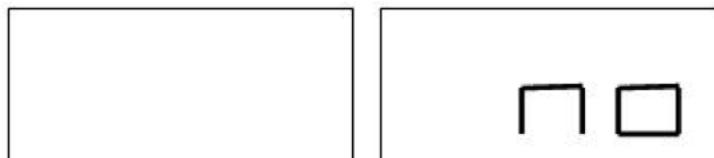
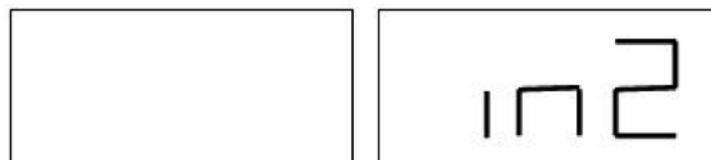

Fig. F6.2 Hidden Weight Programme not possible or chosen position not allowed
Fig. F6.4 Input of the weight W2 position
6. If the angle is greater than 120° , the machine will display the message shown in figure F6.2 for one second and will emit a triple beep indicating that another point must be chosen. If the angle instead is less than 120° , the machine will display the message shown in Fig. F6.4, allowing you to continue with the next step.
8. If the chosen angle is greater than 120° , the machine will display Fig. F6.2 for one second and will emit a triple beep meaning to repeat the procedure in step 7 again. If the angle instead is less than 120° , the machine will immediately display the value of the external weight W2.